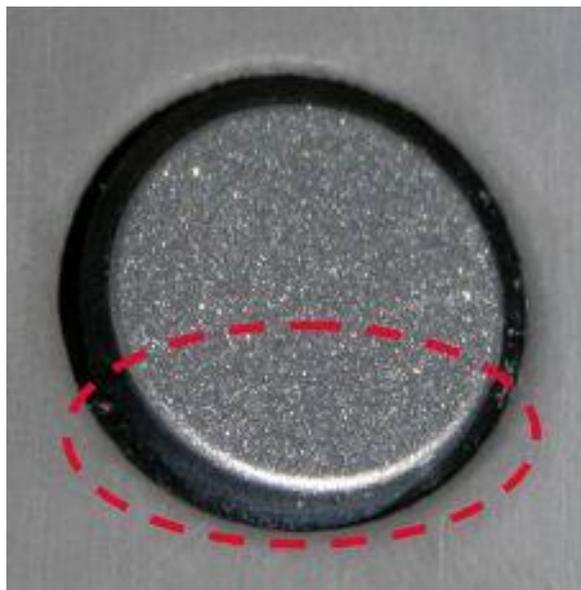

Figure 6. An incorrectly seated decoupling ring (bulging).
7. Check that the decoupling ring is correctly seated (Figure 5, Figure 6, and Figure 7). If the ring is folded or bulging, remove the bumper and reinstall the sensor.